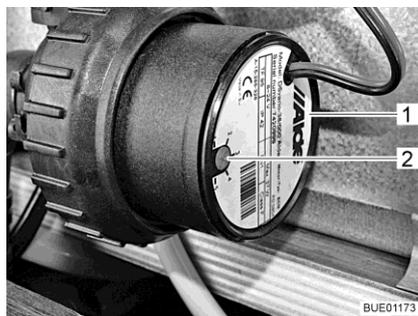

Fig. 125 Speed reduction
The rotational speed of the circulating pump can be set with the control knob (Fig. 125,2). At a lower rotary speed, the operating sounds of the pump are quieter.
The control knob is located on the circulating pump (Fig. 125,1).
- Turn the control knob (Fig. 125,2) in an anticlockwise direction. The output is reduced.